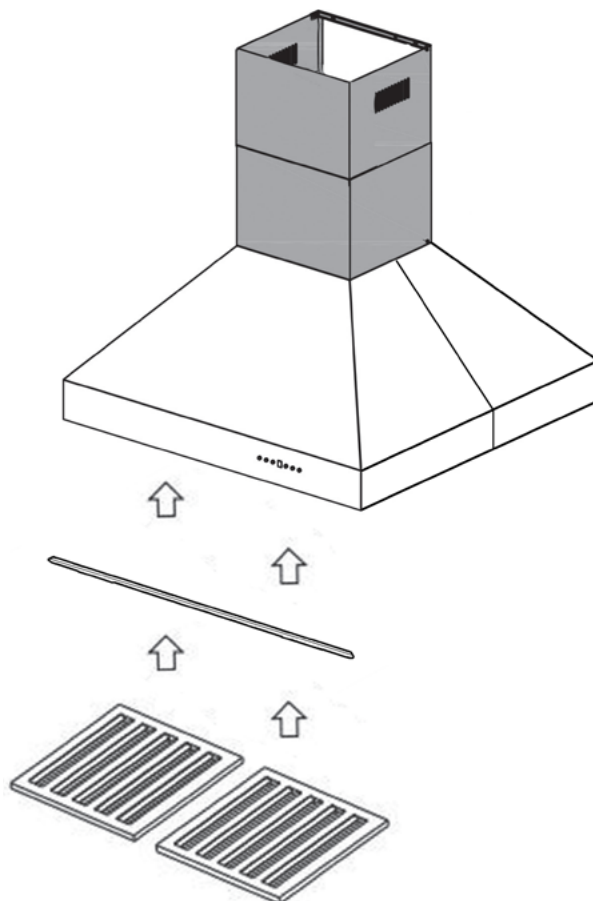

Figure 8
12. Install the baffle channel and baffle filters. Depending on the model, not all range hoods include a baffle channel or tunnel. *Figure 8*